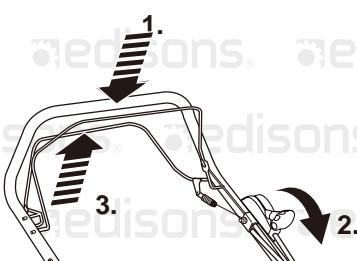

Fig. 15
1. Stand behind the handle (1).
2. Press the primer (19) three times.
3. Pull the brake bar (2) against the handle (1), hold it in position during operation (Fig. 15, 1.).
4. Move the throttle lever (4) downward to the start position (Fig. 15, 2.).
5. Pull the recoil starter (23) lightly until you feel resistance then pull it quickly until the engine starts.
6. Pull the drive bar (3) towards the handle (1) to use the self-propelled function for assistance if required (Fig. 15, 3.).
2. Pull the brake bar (2) against the handle (1), hold it in position during operation (Fig. 15, 1.).
3. Move the throttle lever (4) downward to the start position (Fig. 15, 2.).
4. Pull the recoil starter (23) lightly until you feel resistance then pull it quickly until the engine starts.
5. Pull the drive bar (3) towards the handle (1) to use the self-propelled function for assistance if required (Fig. 15, 3.).